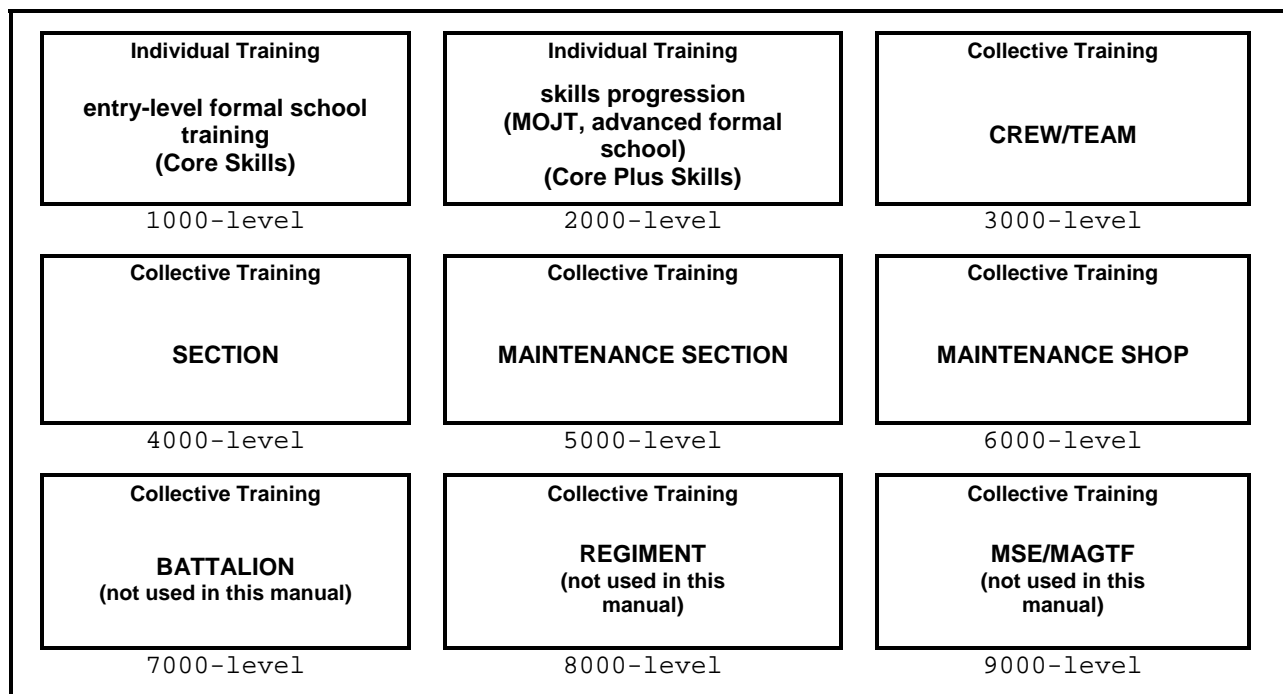

Figure. 1-1 T&R Event Levels
c. Third 4 characters indicate the unit size and supported unit, if applicable (1000 through 9000), and sequence. The 2800 T&R Manual is organized around a maintenance shop with the primary mission of providing field level maintenance support for ground electronics equipment, regardless of the size of that shop. Such a shop might be as large as a company, as in the case of the ELMACO, or as small as a small section such as within an infantry battalion. A maintenance shop will have two or more maintenance sections, generally, though not always, organized around types of equipment that the section supports. For example, maintenance sections might be organized around calibrations (supporting TMDE) or circuit cards. Such sections might be as large as a platoon, as found within the ELMACO, or as small as a single Marine, as found in an MWSS. In addition, a maintenance shop will have maintenance management functions that might be organized as separate sections, as in a communications company, or which might be performed as collateral duties by Marines in smaller maintenance shops. Figure 1-1 shows the relationship of unit size to event code. NOTE: The titles for the various echelons are for example only, and are not exclusive. For example: 4000-level events are appropriate for section-level events as noted, but also for squad-level events.
(1) Grouping. Categorizing events with the use of a recognizable code makes the type of skill or capability being referenced fairly obvious. Examples include: ADMN for maintenance administration events, MAIN for maintenance events, RPTS for events related to maintenance reports, etc. There is no special significance to the functional areas, but they should be intuitive to make it as easy as possible for the T&R user to find events. When organizing the T&R manual, functional areas are alphabetized then the associated events are numbered. The events will be numbered based upon the introduction of each new functional area, allowing up to "999" events. For example: if there are four entry-level maintenance events (MAIN) for the 2847 occupational field, then the events should start 2847-MAIN-1001 and run through 1004. Next, the operations events (OPS) should start at 2847-OPS-1001.
(2) Sequencing. A numerical code is assigned to each individual (1000-2000-level) or collective (3000-9000-level) training event. The first number identifies the size of the unit performing the event, as depicted in figure 1-1. The second number is available for T&R manuals with collective events that support those in other manuals to identify the echelon of unit being supported by a particular collective event. If a collective event is performed in general support without regard to echelon, then a zero "0" will be utilized as the second number. For example: ELM-MAIN-5601 would refer to an event conducted by a maintenance section supporting a maintenance shop, ELM-MAIN-6001 would represent an event the maintenance shop does in support of any sized unit. The event would not be labeled ELM-MAIN-7001 because that would imply that a battalion was performing some task. This is not possible, since no ground electronics maintenance unit organizes in a unit larger than a company.